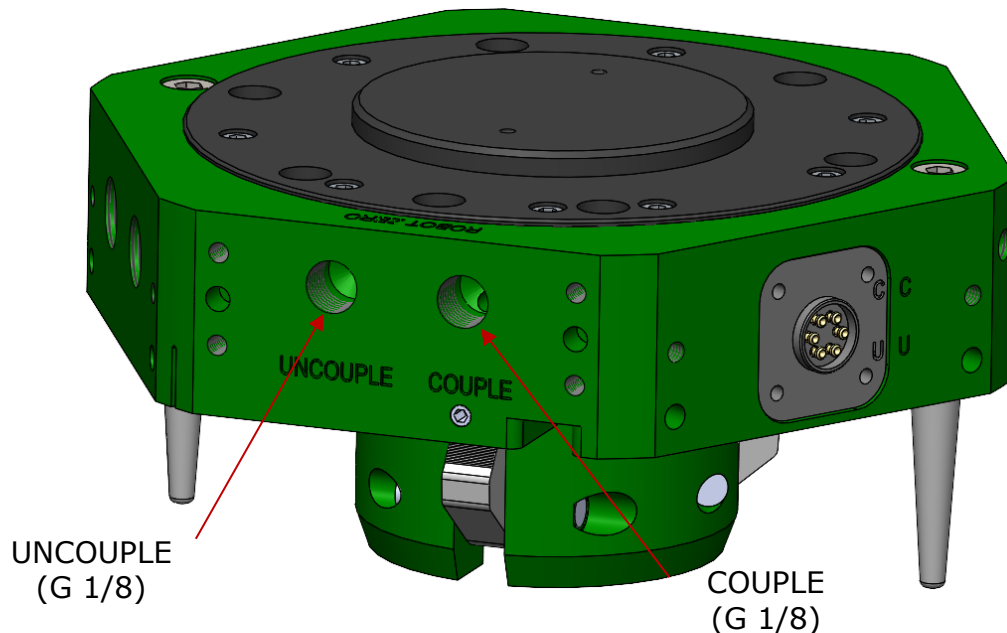

Figure 5.3-1. E100 Robot Side Air Supply Ports
The pneumatic supply for the Epsilon Tool Changer can be supplied via directly ported air fittings supplied by the customer (Figure 5.3-1).
The E100 Tool Changer has eight (8) available user pneumatic ports to supply air through the tool changer to the specific tool being used. The robot side ports can be checked if a poppet valve is installed. For the ports to be operational, the tool changer must be coupled and be fitted with a valve fitting assembly (valve fitting (1506-C99N) and 2 O-rings (83908-P1134) per port). Air can be supplied via directly ported air fittings supplied by the customer (Figure 5.3-1).